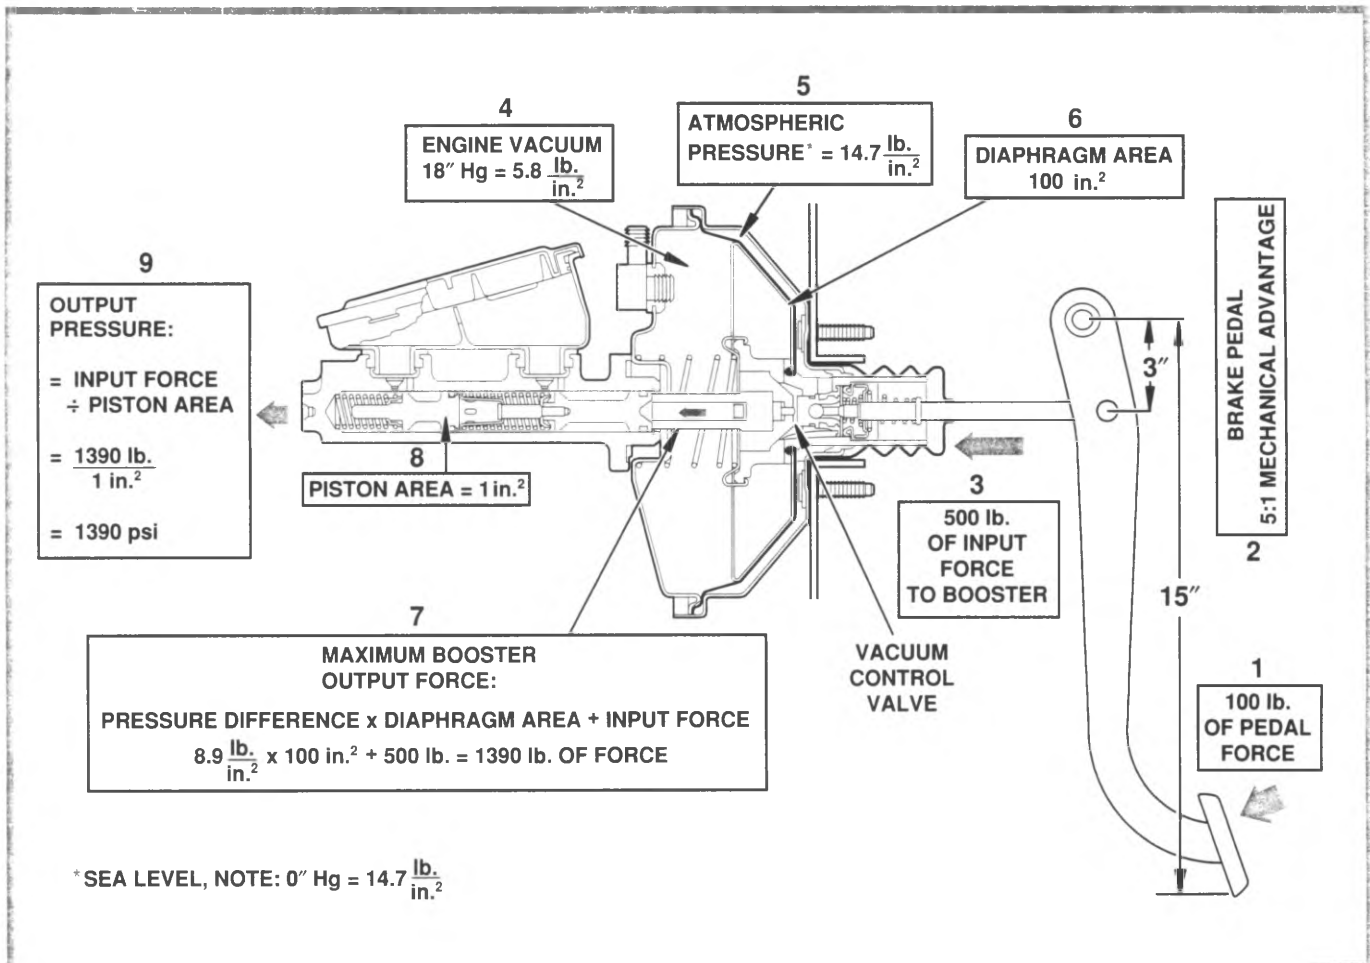

Figure 3-5, Vacuum Booster Operation Example
1. The driver applies 100 pounds of force to the brake pedal (figure 3-5).